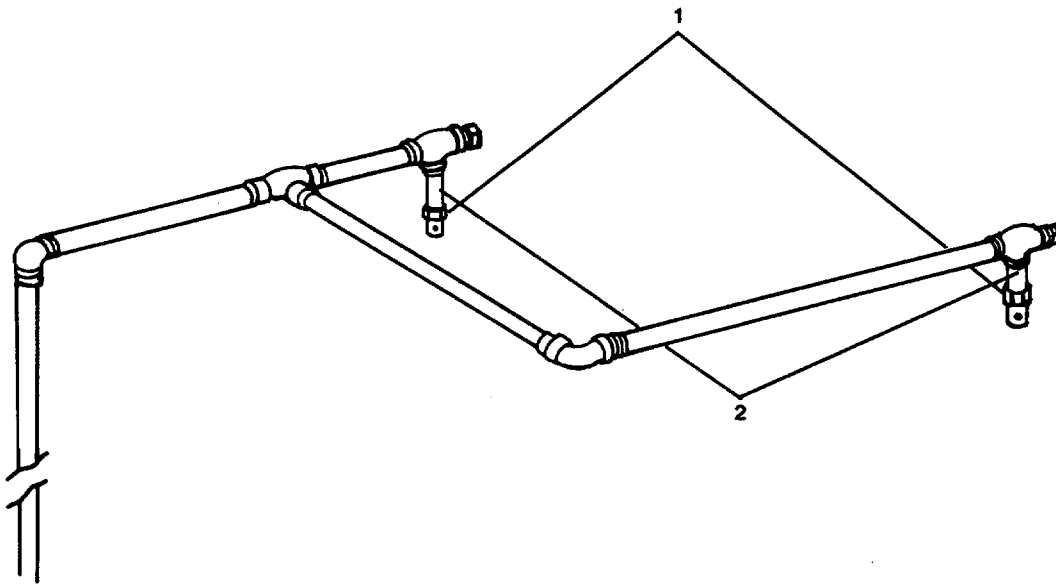
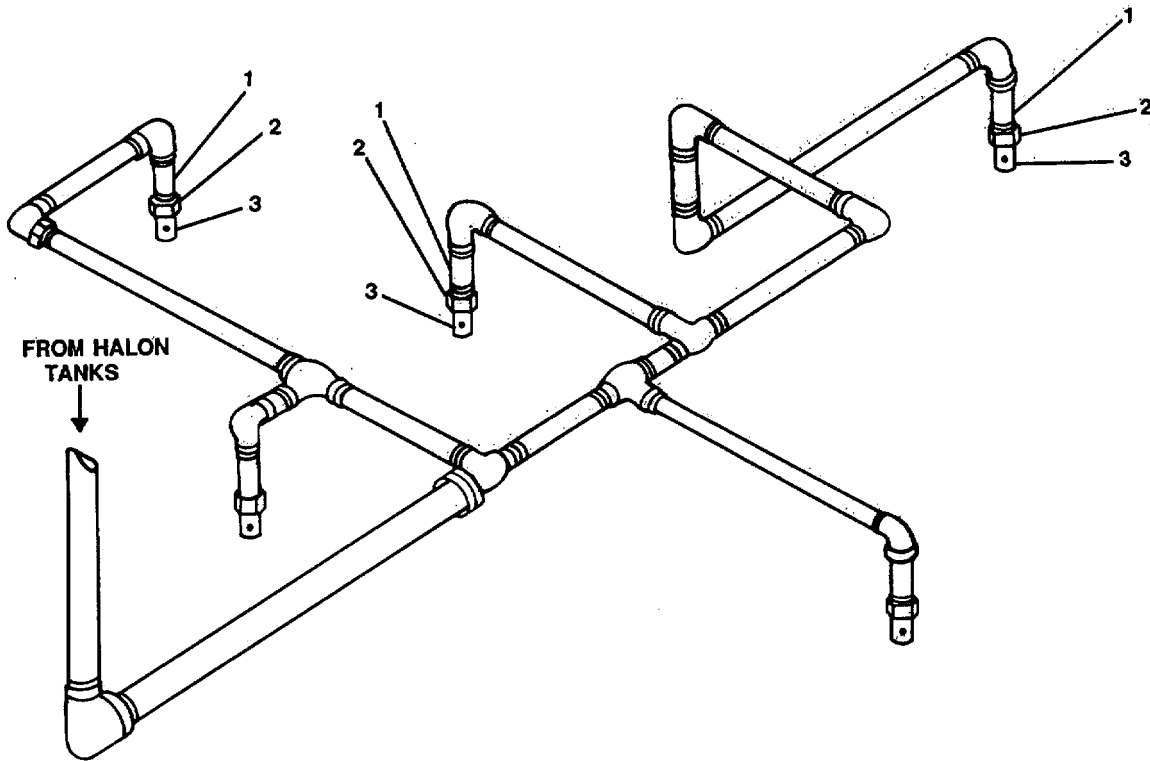

FIGURE 3-5. *Halon Nozzles.*
FIGURE 3-6. Fire Foam Nozzles.
(1) Hose Assembly.
- (a) Disconnect hose connector (16).
- (b) Disconnect hose connector (14) on opposite end of hose (15) from pipe fitting (13).
(2) Electro-pneumatic actuator.
- (a) Remove male adapter (17) from actuator (18).
- (b) Unscrew and remove actuator (18) from valve (19) on halon tank (20).
(3) Halon nozzles.
- (a) Position pipe wrench over halon nozzle (1, Figure 3-5) with counter-clockwise rotation to remove nozzle from metallic pipe (2) in halon piping system.
(4) Fire foam nozzles.
- (a) Position pipe wrench over union (2, Figure 3-6); turn with counterclockwise rotation to remove fire foam nozzle (3) from metallic pipe (1).
- (1) Disconnect pipe (7) from cylinder at union (8).
- (2) Remove four screws (6) securing cover assembly (2) to housing (1).
- (3) Remove cover assembly.
- (4) Remove four screws (5) securing electrical wire leads to switch (3).
- (5) Tag and separate wiring from switch.
- (6) Remove two screws (4) securing switch in housing body.
- (7) Remove switch.
Repair of the halon subsystem consists of replacing globe valve (36), time delay (9), pressure operated switch (3), nonmetallic hose assemblies (15, 24), release lever (26), electro-pneumatic actuator (18), halon nozzle (1, Figure 3-5), and fire foam nozzles (3, Figure 3-6).
(1) Fire foam nozzles.
(a) Install fire foam nozzle (3, Figure 3-6) on threaded end of metallic pipe (1).
(2) Halon nozzles.
(a) Install halon nozzle (1, Figure 3-5) on threaded end of metallic pipe (2).